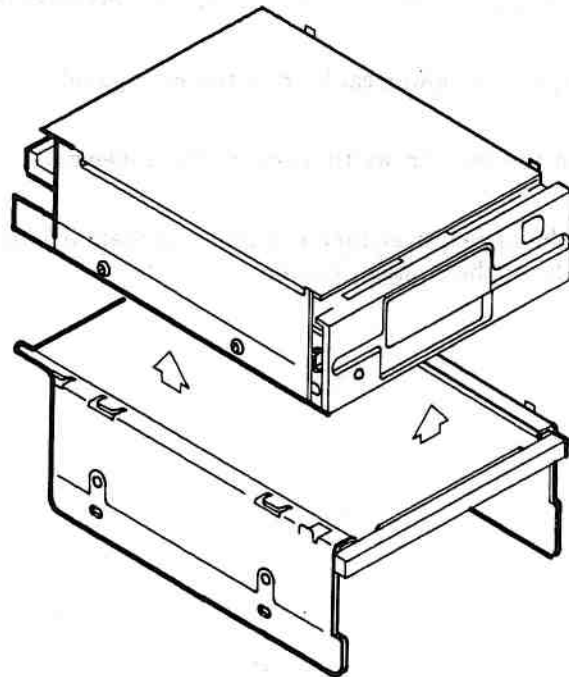

Figure 5-66. Removing the Metal Cover and Upper MFD Unit
9. Remove the four screws that attach the upper MFD Unit to the cover and remove the MFD Unit from the cover (Figure 5-66).